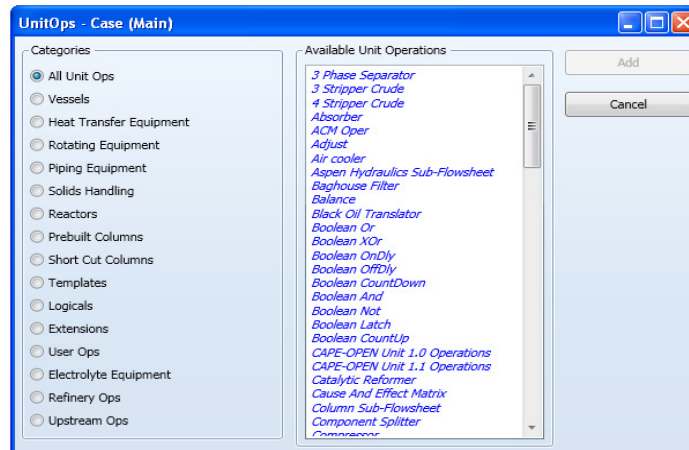

Figure 9: UnitOp window
7.3.2 Click on “**Workbook**” icon at the toolbar. The workbook will appear as shown in figure 9.
7.3.4 Click the “Add UnitOp” button. The UnitOp view will appear listing all available unit operations as shown in figure 9.